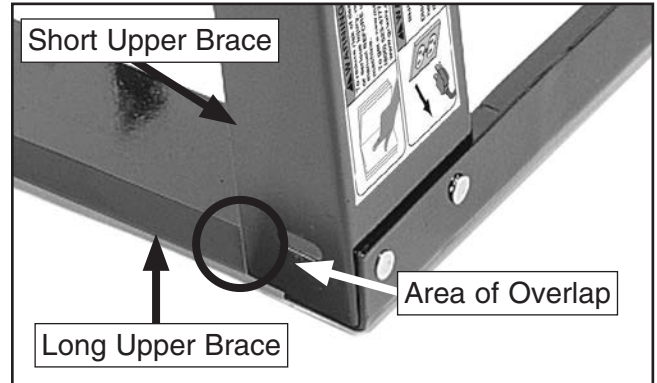

Figure 20. Short brace overlapping long upper brace.
Note: Make sure the (2) short upper braces overlap the long upper braces and that the braces are placed inside the leg assemblies, as shown in **Figure 20**.